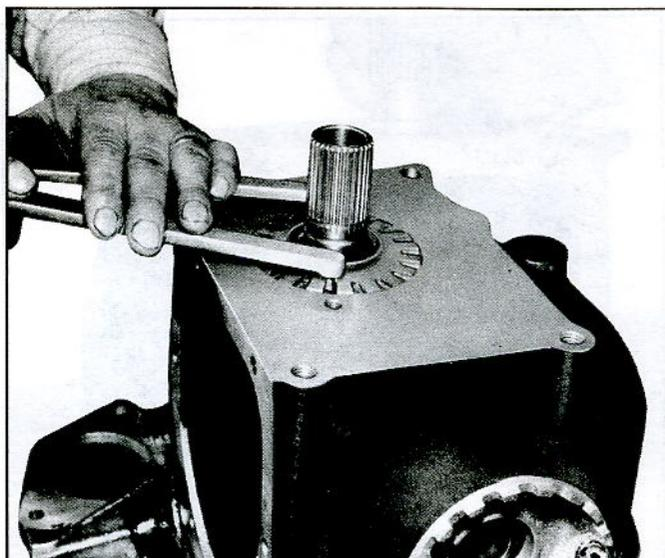
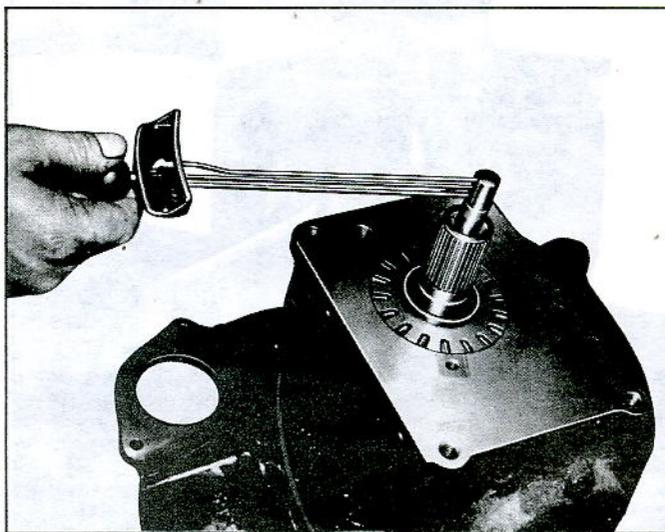

Fig. 47—Tightening Pinion Bearing Adjusting Sleeve with J-972
Fig. 48—Measuring Pinion Turning Torque Using J-8362 Adaptor and Torque Wrench J-5853
4. Tighten pinion bearing adjusting sleeve with J-972 (fig. 47) until the pinion bearings are carried into contact with their races, then back off pinion adjusting sleeve slightly to eliminate any pinion bearing preload. At this point, measure the turning torque created by the side bearing preload at the pinion using J-8362 Adapter and an inch pound torque wrench such as J-5853. Record this reading (example, 8 in. lbs.). Then further tighten the pinion bearing adjusting sleeve to increase the initial turning torque by 4-6 inch-pounds with used bearings or 9-11 inch-pounds with new bearings. Using the 8 inch-pound initial turning torque from our example, the final total turning torque measured at the pinion (fig. 48) would be 12-14 inch-pounds with used bearings or 17-19 inch-pounds with new bearings.